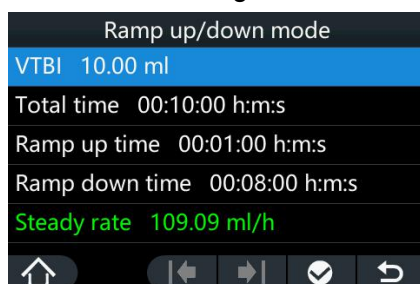

Figure 5-8
- Select menu “” option → “Mode” → “” → “Ramp up/down mode” to enter the interface as shown in Figure 5-8.